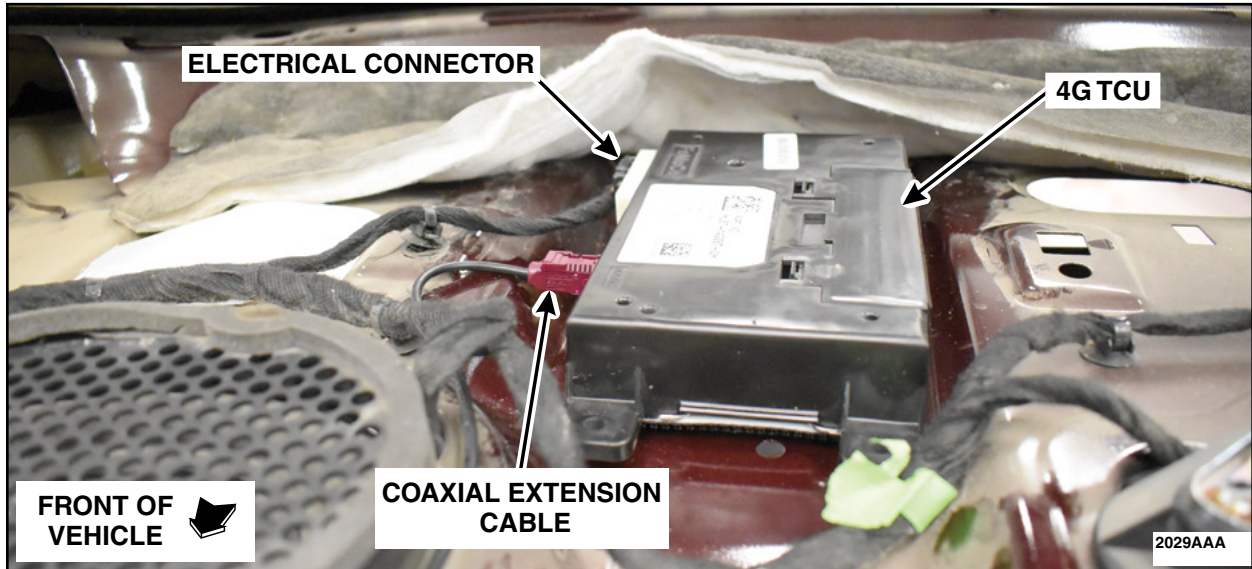

FIGURE 6
7. Install the 4G modem. See Figure 6.